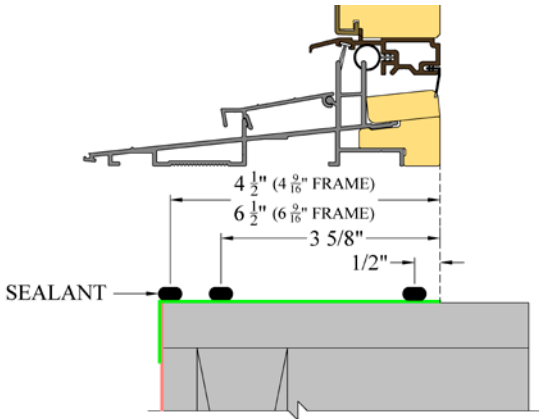

Fig. 18: 4 9/16" & 6 9/16" Inswing Patio Door
- c. Apply three 1/4" continuous beads of silicone across the entire width of the rough opening. Fig. 18 shows the silicone location for a 4 9/16" and 6 9/16" inswing door. The bead location will be different for other jamb sizes. (Fig. 18)